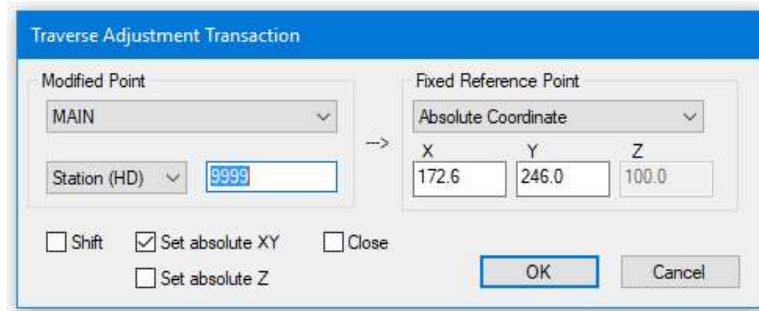

Figure 5-10: Traverse Adjustment Transaction Dialogue Box
5. Within the Traverse Adjustments Dialogue Box (Figure 5.10)